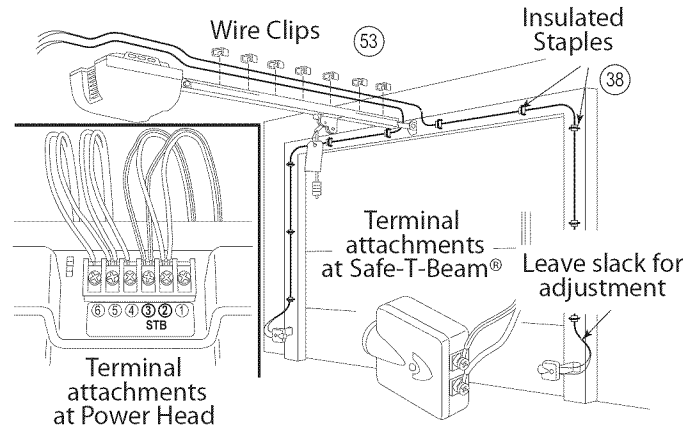
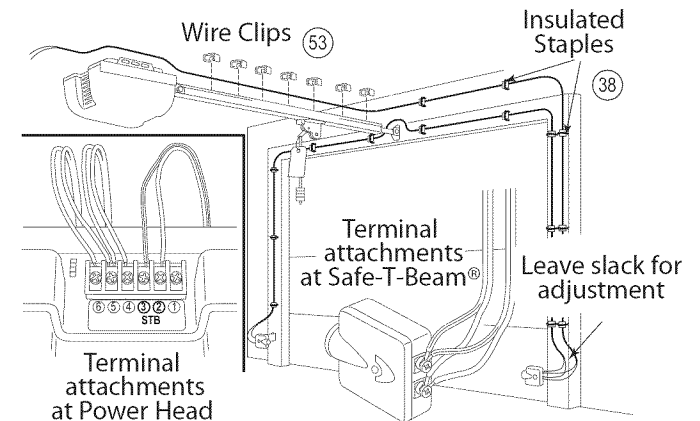

Figure 29 Wiring Method A
Figure 30 Wiring Method A
- Route Wire and Insulated Staples (Figure 29 and Figure 30).